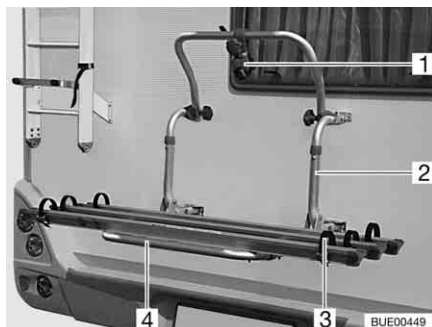

Fig. 4 Bike rack, not lowerable
The bike rack (Fig. 4,2) permits to easily transport 2 bicycles. Expansion for 3 bicycles is possible.
- Fold the telescopic swivel clip (Fig. 4,4) down.
- Place the bicycles on top and secure them with quick straps (Fig. 4,3).
- Fasten the spacer (Fig. 4,1) to the frame of the outermost bicycle.